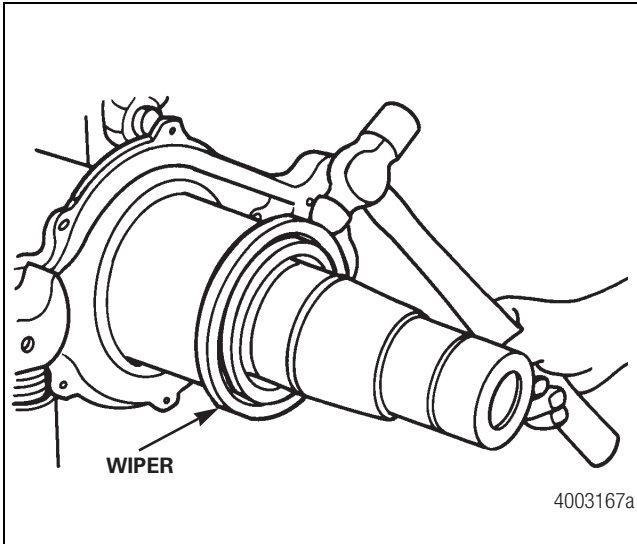

Figure 3.9
13. If the seal incorporates a separate wiper on the oil seal collar, loosen it by lightly striking with the round end of a ball-peen hammer, then remove it and discard. Figure 3.9.